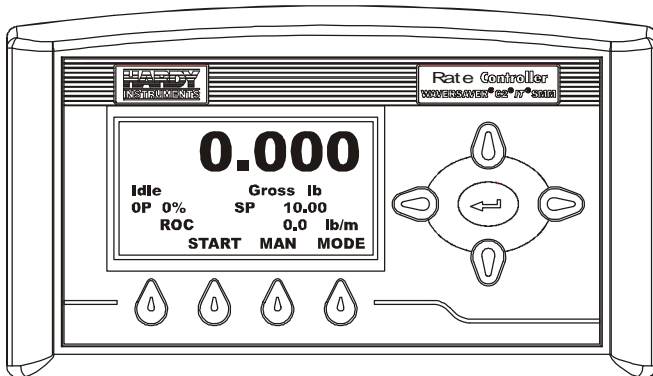

FIG. 7 SUMMARY DISPLAY
- AC Power Input (See Fig. 7)
- Step 3. Plug the connector into the header at the rear panel. (See Fig. 7)